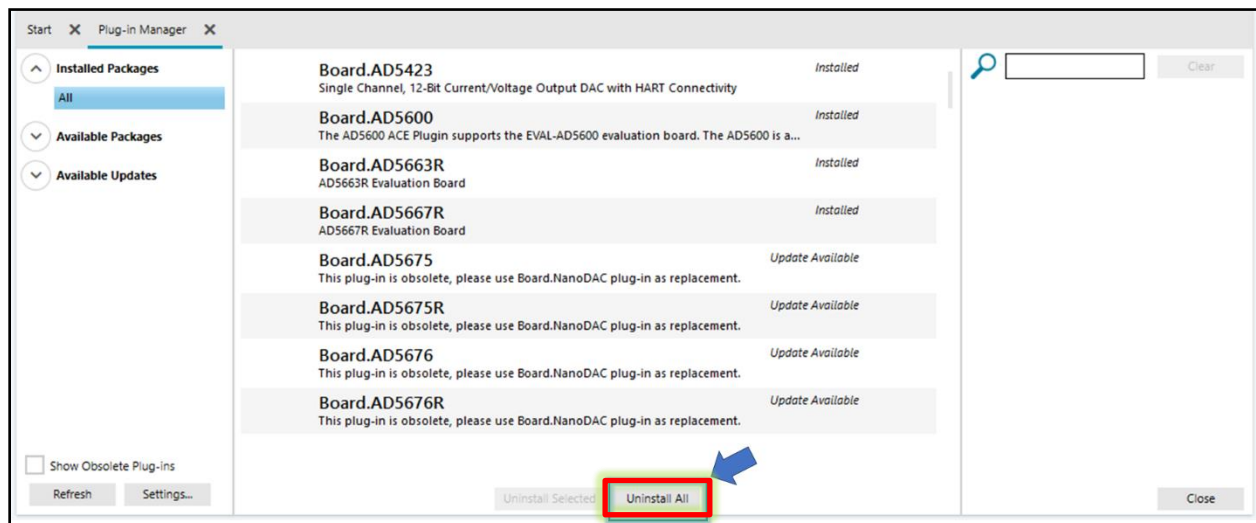

Figure 5
3. Select the "Load EEPROM content from file" option and navigate to the local folder where the AD5676R.dat file is located and then select it. The main window will update to reflect the contents of the file. **Please verify that the "EEPROM address" and other entries on the forms match those displayed in Figure 5.**